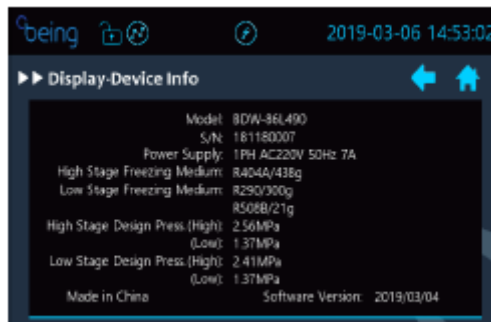

Figure 1-32.
6. Touch the “Device Info” button from the display page to enter the device information page, as shown in Figure 1-32.